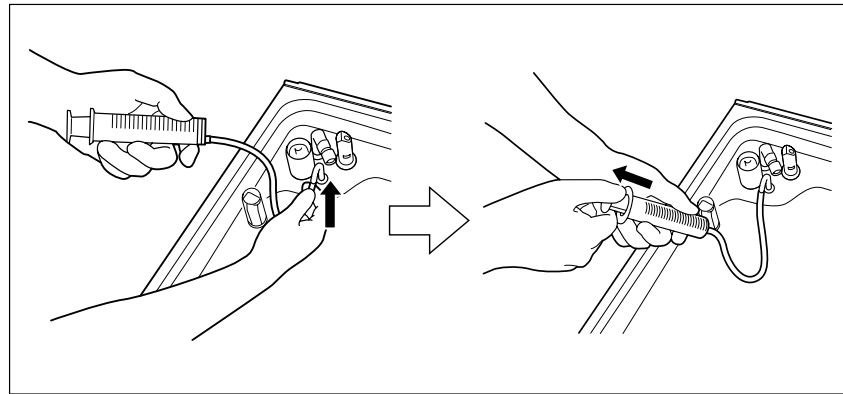

Figure 7.78
6. To drain off the detergent inside of the pipe, connect the tube attached to the syringe to the detergent nozzle inside the cleaning tub and suction the detergent with the syringe (see Figure 7.78).
9. To fill the detergent supply pipe with the disinfectant solution, connect the tube attached to the syringe to the detergent nozzle and repeat the suction operation with the syringe until the disinfectant solution comes out of the tube. During this process, do not let the air come into the detergent supply pipe (see Figure 7.78).
13. Prepare a beaker or similar container and pour more than 50 ml of the sterilized water into it (see Figure 7.78).
15. To rinse the pipe, connect the tube attached to the syringe to the detergent nozzle and suction more than 50 ml of sterilized water with the syringe (see Figure 7.78).
17. To drain the rinse water in the pipe and fill them with detergent, connect the tube attached to the syringe to the detergent nozzle and suction more than 50 ml of detergent with the syringe (see Figure 7.78).